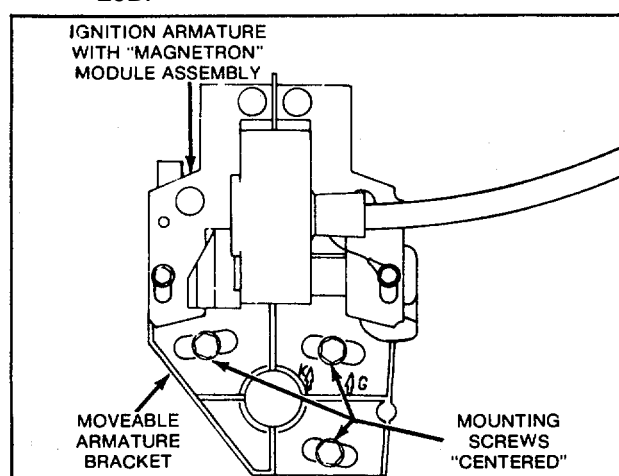

Fig. 29A- Gasoline Operation
- 1 Gasoline - Position armature bracket so mounting screws are centered in armature bracket and tighten screws, Fig. 29A.